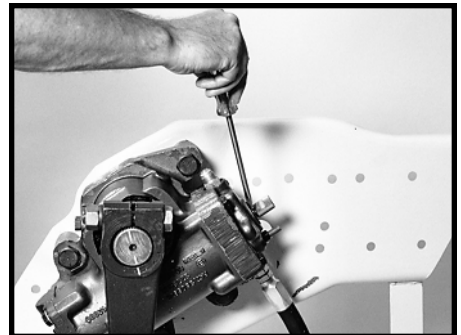

Figure 22
- 2.3 Remove and discard the dirt and water seal (4). SEE FIGURE 22.